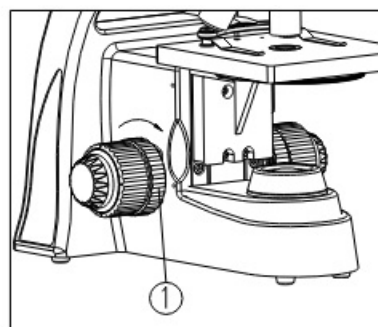

Fig. 10
The focus travel locking screw② sets the maximum height that the stage can move when focusing, thereby avoiding high magnification objectives from touching the slide (prevents slide breakage and damage to objectives). The maximum stage height is preset at the factory. Fig. 10
- If the coarse focus knobs turn with difficulty when focusing, the specimen falls out of focus, or the stage drifts down by itself, the focus tension must be adjusted (see Fig. 10).
- To increase focus tension, rotate the tension adjustment ring① according to the arrowhead pointed (top rotating toward the operator; rotate in the reverse direction to loosen the focus tension (i.e., make it easier to turn the coarse focus knob).